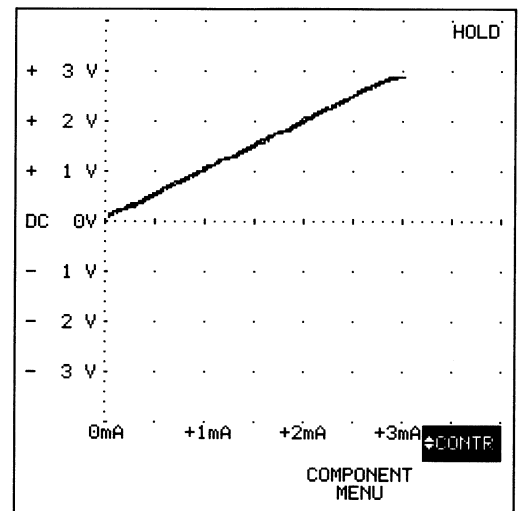

Figure 4.15 Component test current sweep
- I Adjust the INPUT A attenuator with the mV-RANGE-V key to 20 mV/div. The display must show a line as indicated in figure 4.15.